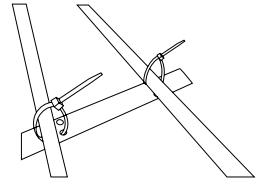

Figure 1. Gutter bar & cable ties
4. For this installation the gutter bars are used (fig 1). UV resistant cable ties are pushed through the holes on the bar and fasten loosely so that the cable is held, but not secured.